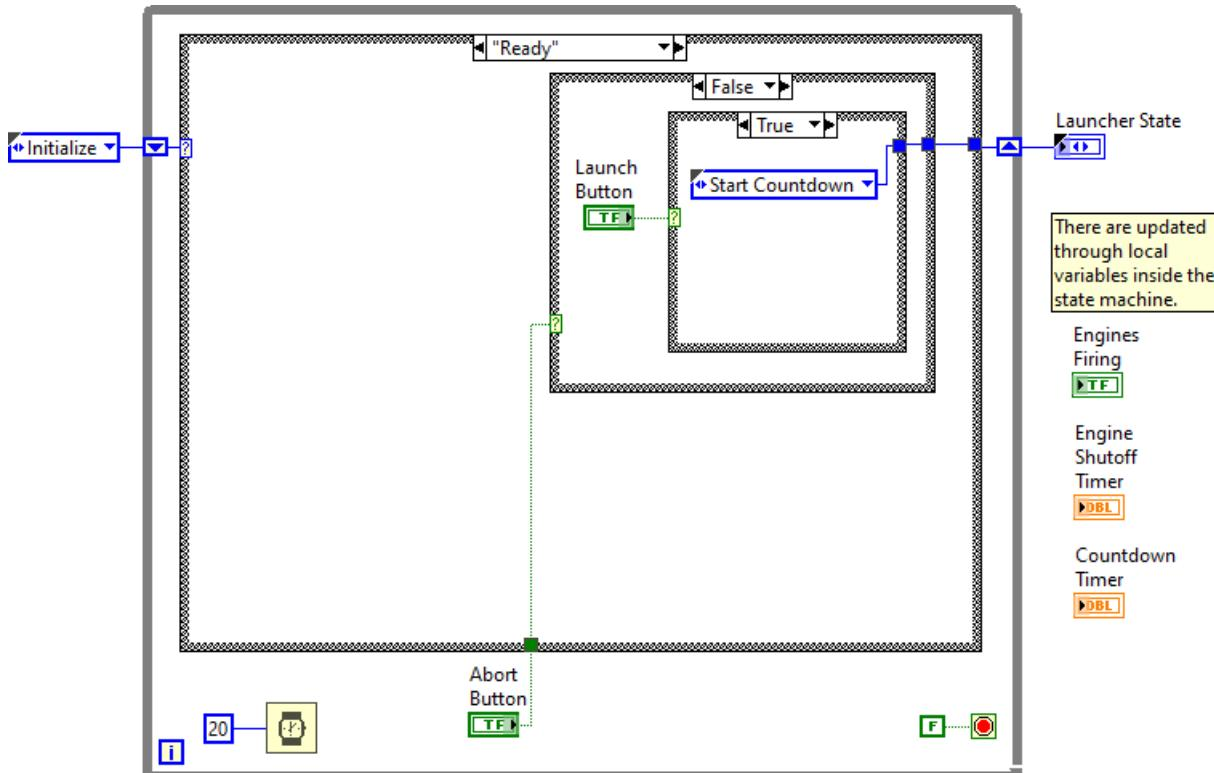
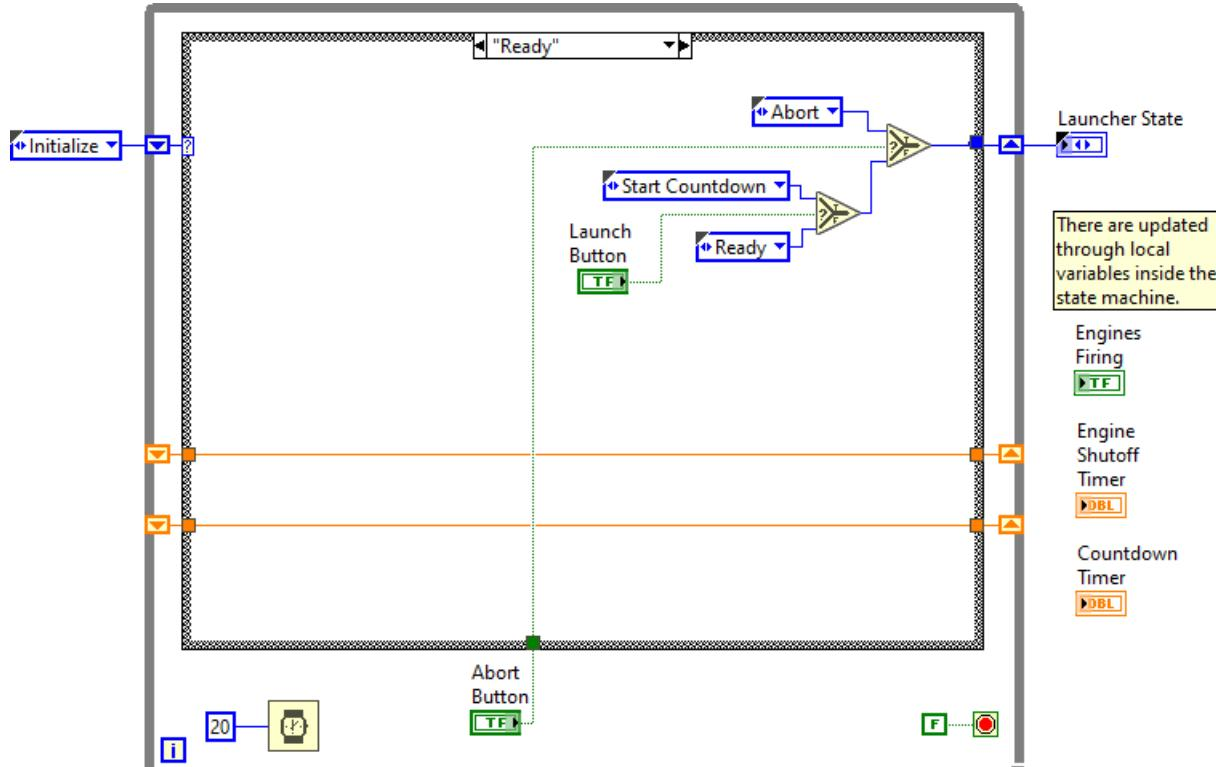

FIGURE 3.17 Wiring the Ready state to handle the Launch button being pressed.
FIGURE 3.24 Use Select functions to choose next state
17. Switch the inner case to the False value (Abort button not pressed), and wire it as shown in Fig. 3.17. Note the Launch Button has been moved inside Case Structure. The order of the Case Structures that determine the next state is very important. The outer case executes first. It takes precedence over the inner case. In this example if the Abort Button is pressed, the state of the Launch Button doesn't matter.
There is an alternative way to perform the tests needed to choose the next state. The Case Structures in Fig. 3.17 can be replaced with Select functions, as shown in Fig 3.24. These can be a lot easier to read. When using the Select function, the last one executed, drawn on the right, takes precedence over the Select functions that precede it. The Select function executes a little faster than the Case Structure.